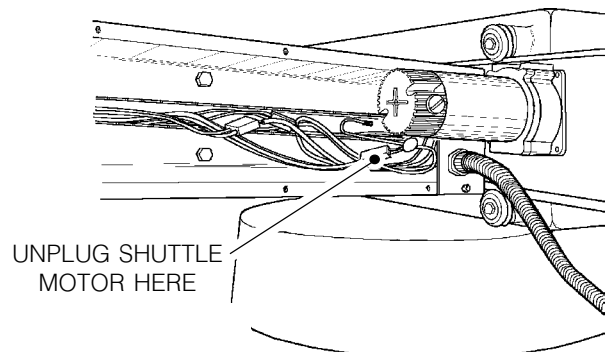

Fig. 14-4 Wiring harness for shuttle motor.
8. Remove the cover from the wire channel inside the holding arm casting and unplug the shuttle motor from the wiring harness (See Fig. 14-4).